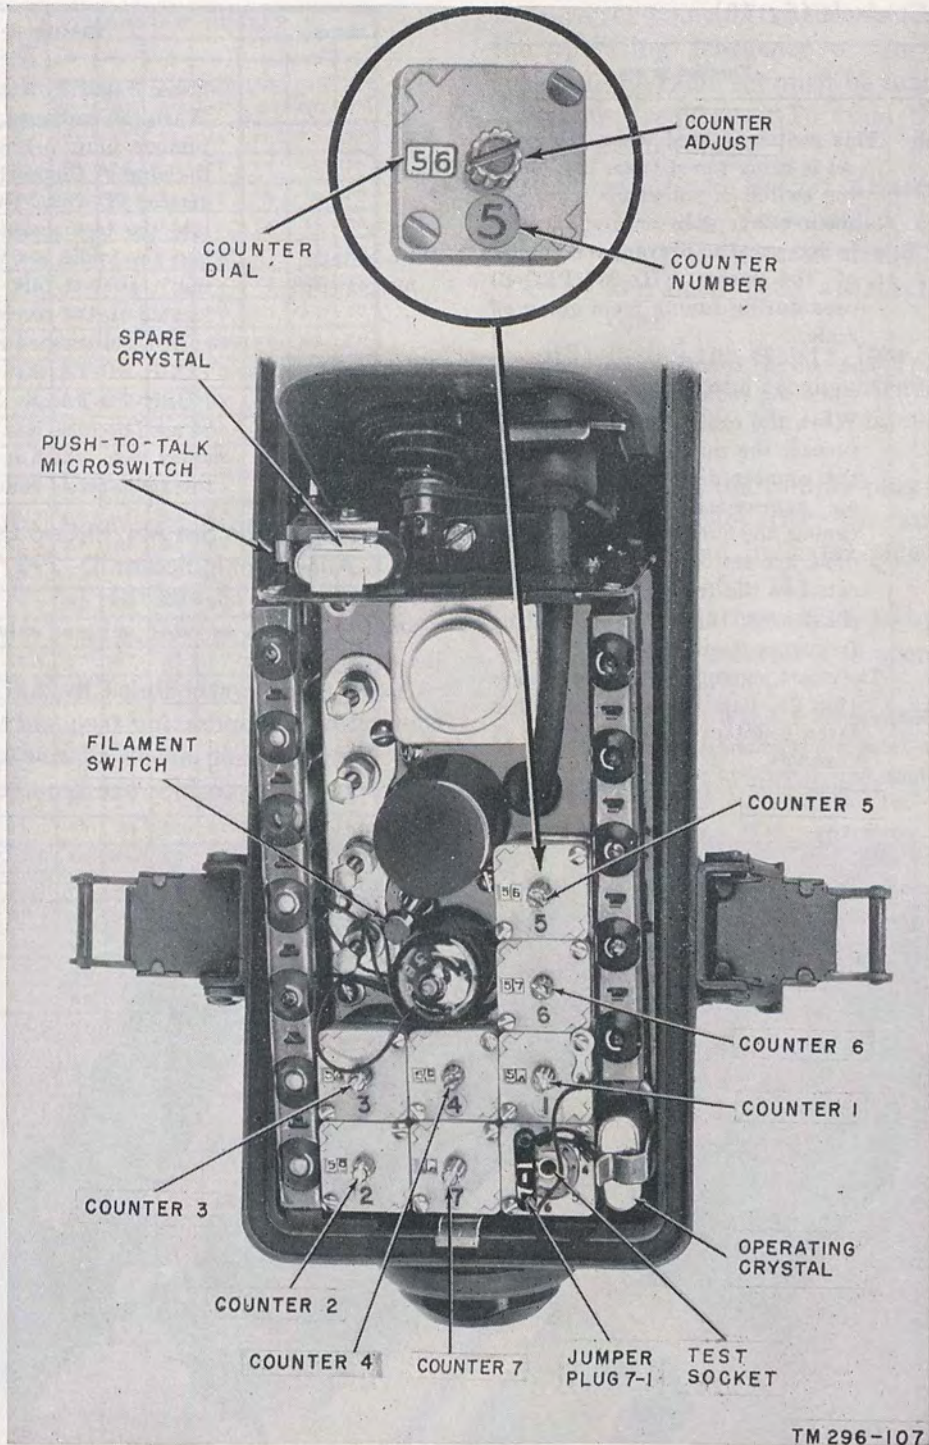
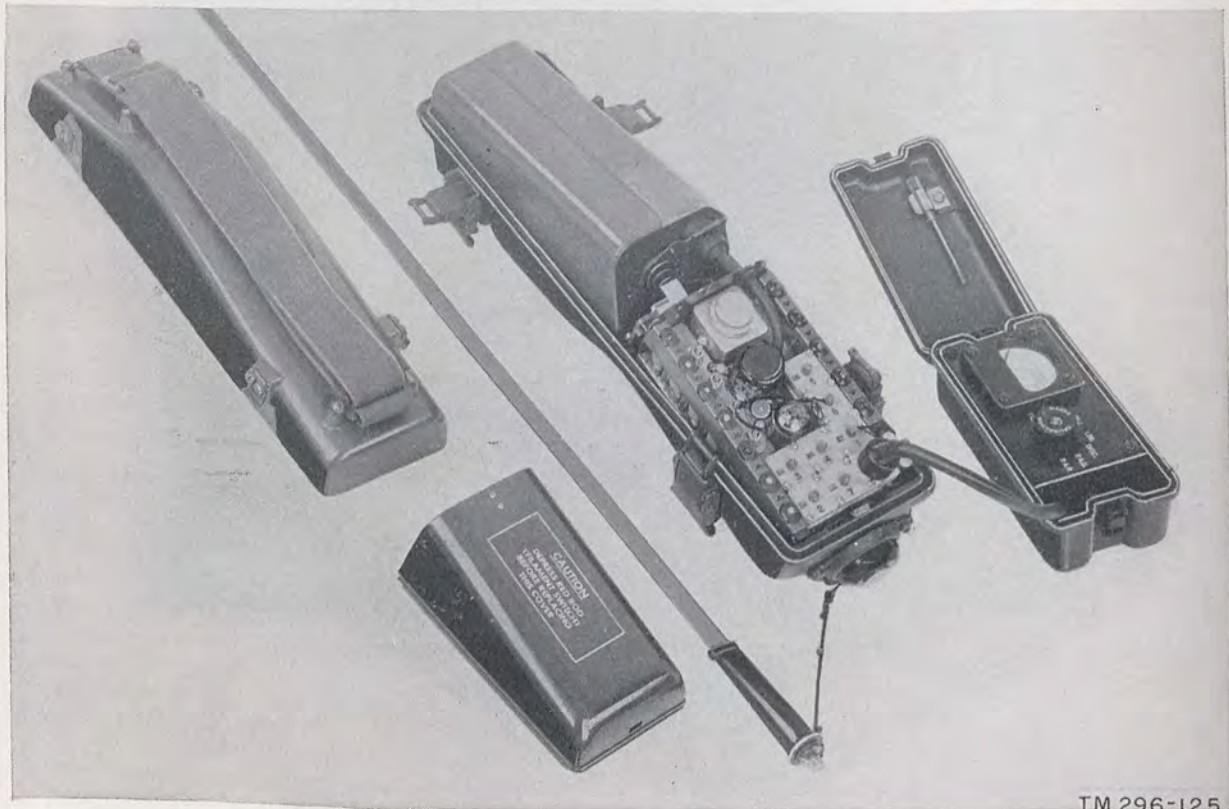

Figure 10. Radio Set AN/PRC-6, tuning controls.
Figure 11. Channel Alinement Indicator ID-292/PRC-6 connected to Radio Receiver-Transmitter RT-196(*)/PRC-6.
Crystals required... A crystal located on receiver-transmitter chassis (operating crystal fig. 10), is used to control
c. *Channel Alignment Indicator ID-292/PRC-6* (fig. 7). Channel Alignment Indicator ID-292/PRC-6 consists of a meter with a connecting cable and plug and a screw driver. When the radio set is being tuned, the plug is inserted into the test socket on the receiver-transmitter chassis (fig. 11). The theory and maintenance instructions of the alignment indicator are given in TM 11-5059, Channel Alignment Indicator ID-292/PRC-6.
b. Tuning Controls (fig. 10).
12. Tuning Radio Set AN/PRC-6 Using Channel Alinement Indicator ID-292/PRC-6 (figs. 11, 12, and 13)
the receiver-transmitter chassis (fig. 10). When the operating frequency of the radio set is changed, the radio set must be tuned to the new operating frequency. To tune the radio set, proceed as follows:
- (4) Remove the jumper plug 7-1 from the test socket (fig. 10) and insert the alignment indicator plug into the test socket (fig. 11).
- (5) Plug the crystal to be used into the crystal socket. (See operating crystal in figure 10.)
- (6) Set each counter dial to the number indicated in the frequency calibration chart (fig. 12). The number on the counter dial (fig. 10) is changed when the counter adjust shaft is turned; use a screw driver.
push-to-talk microswitch (fig. 10) on the receiver-transmitter chassis and observe the meter of the alinement indicator. If the meter pointer is on, or to the left, of the red part of the A scale, replace the battery (par. 16).
d. Calibrate Alinement Indicator. After the battery has been checked, open the filament switch (fig. 10) of the radio set by pulling it up. Set the selector switch of the alinement indicator to CAL. Turn (with a screw driver) the screw driver control of the alinement indicator (fig. 13), located at the center of the selector switch, until the meter pointer is at the red calibration (CAL.) line. Close the filament switch of the radio set by pushing it down. (It is not
e. Adjust Seven Counters. The procedure for adjusting the seven counters are given in *f* through *k* below. When the counter dials are set to the numbers indicated on the frequency calibration chart, the radio set is approximately tuned to its operating frequency. It is only necessary to adjust each counter individually, using the alignment indicator, to obtain optimum (best) results. When adjusting the counters, do not turn the counter adjust (fig. 10) more than a small distance to the right (clockwise) or to the left (counterclockwise). It should not be necessary to turn the counter adjust more than one-half turn in either direction. If, after the radio set has been tuned, the number on a counter dial is not within 8 of the number indicated (for that counter) on the frequency calibration chart, turn in the radio set for calibration by a field maintenance repairman.